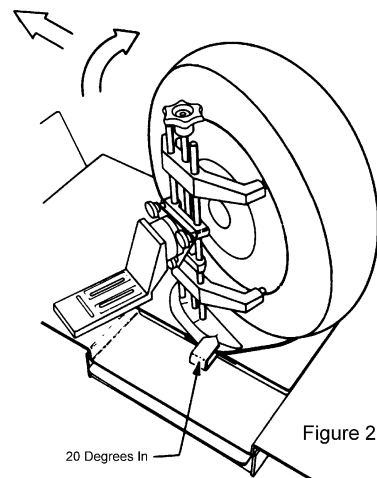

Figure 20
- 4) Turn the wheel inward at the front for a 20 degree reading on the radius gauge. This is a total swing of 40 degrees. (See Fig. 20)